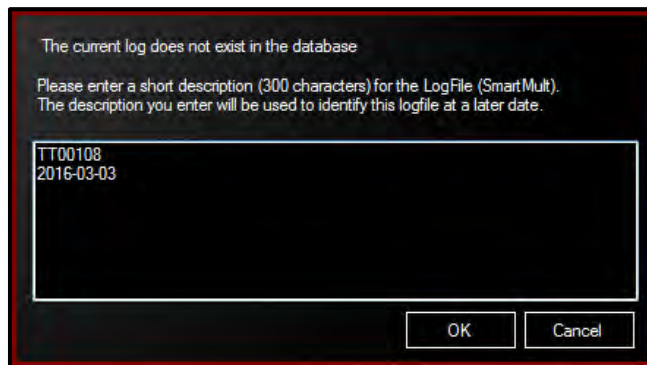

Figure 5.3-2: Log Descriptions
3. You will be prompted to add descriptions of the Data Logs once the Log file has been downloaded (Figure 5.3-2). These descriptions should contain information to help you identify the data.